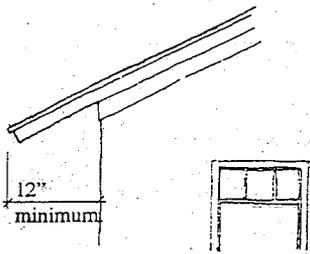

Figure 3b
- Sloped roof eaves shall overhang exterior wall planes at least 12" and shall be visibly supported by exposed rafter ends or other compatible architectural detailing (Figures 3b and 3c).